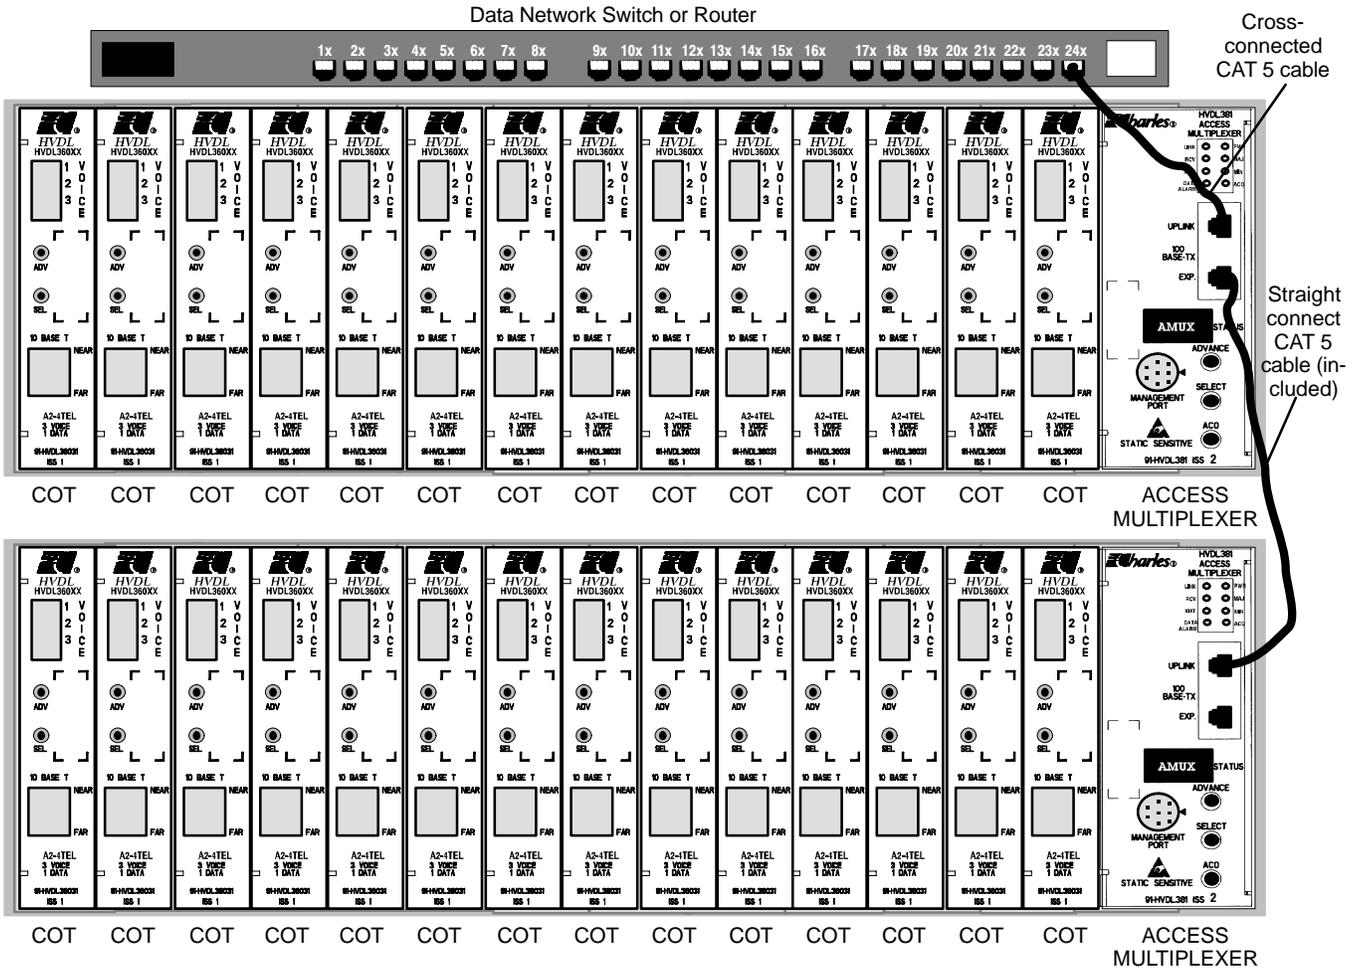

Figure 2. Typical Access Multiplexer Application
Multiple access multiplexers can be daisy-chained by connecting them through their expansion ports. Figure 2 illustrates a typical application.
2.	<p>If multiple access multiplexers are to be daisy-chained, connect the front panel uplink port to the expansion (EXP) port of the next HVDL access multiplexer located in the HVDL shelf above (see Figure 2) using a straight-connected CAT5 cable with RJ45 connectors.</p>